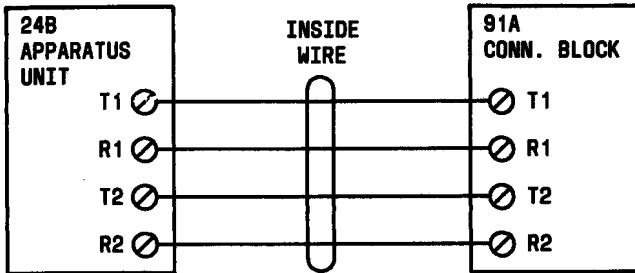

Fig. 30—Connections for 24B Apparatus Unit
(1) If the 24B is to be used with lines 1 and 2, connect it to the 91A block associated with the primary set where lines 1 and 2 are controlled as shown in Fig. 30. Then skip to step (3).
(2) If the 24B is to be used with lines 3 and 4, move the O (orange) lead from screw terminal 1-2 to 3-4 (do not disconnect any other leads). Then connect the 24B to the 91A connecting block associated with the primary set where lines 3 and 4 are controlled as shown in Fig. 30.